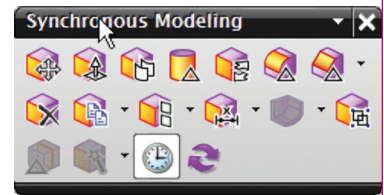

Figure 2: Synchronous modeling toolbar.
- Select the *co-planar* command from the synchronous modeling toolbar (figure 2).